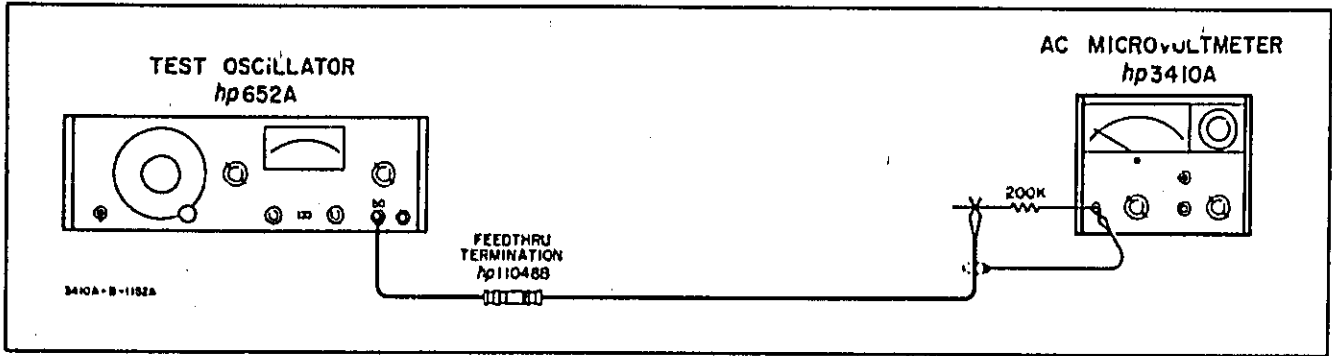

Figure 5-3. Input Impedance Check
d. Connect a 200 k Ω resistor between the test oscillator and the 3410A as shown in Figure 5-3.
a. Connect the test oscillator (terminated in 50 Ω) and a 200 k Ω resistor to 3410A as shown in Figure 5-3. Insert the resistor lead directly into the BNC connector on the 3410A, and connect the ground lead to the outer shield of the connector. Do not use an adapter, as it would add input capacitance. The 50 Ω termination should be as close as possible to the 200 k Ω resistor.